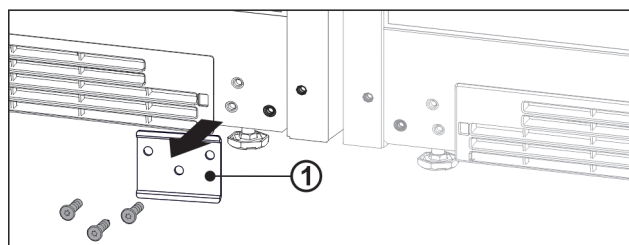

Fig. 12
- If the metal plate Fig. 12 (1) is installed, unscrew the metal plate.